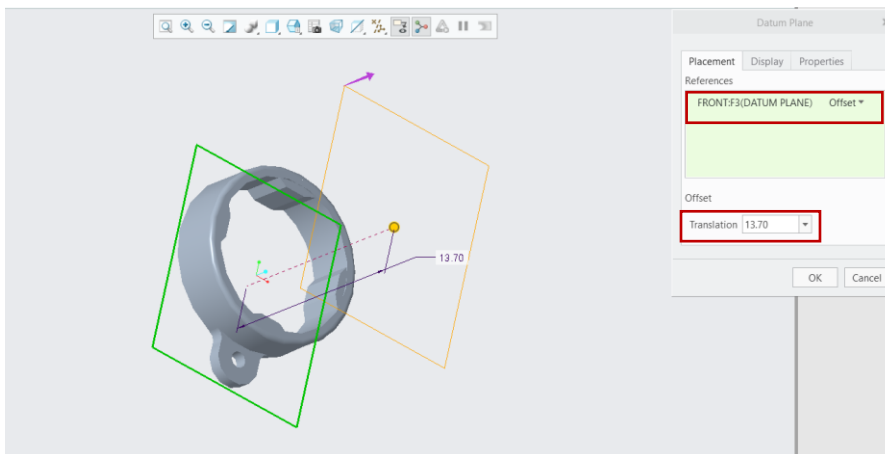

fig1.5
- Make a plane using front datum plane as reference and offset it to 13.7mm as shown in the fig 1.5.